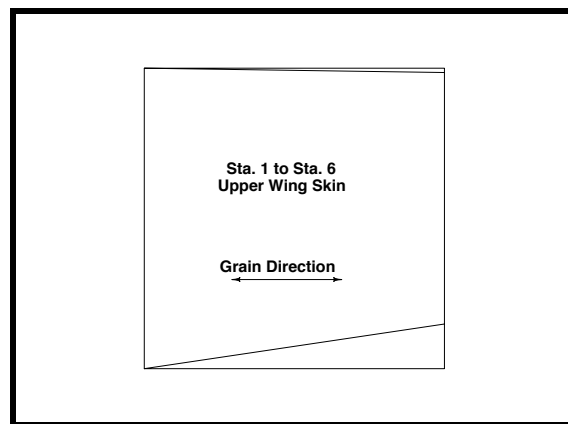

Figure 45
- ❑ Use two 50"x50" sheets of 2.5mm birch plywood as shown in Figure 45. Cut to fit the aircraft.